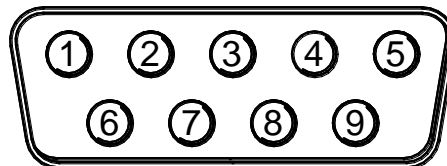

Figure 5. Wire View of RS-232 (DB-9) Male Plug
Two wires need to be connected to a RS-232 serial port. The BLUE wire from the AEM UEGO Gauge shall be connected to Pin #2 (RX) on the serial port for receiving data. Pin # 5 (GND) on the serial port shall be grounded. If a standard 9-pin serial cable is to be cut instead, the (RX) wire is typically RED and the (GND) wire is typically GREEN. However, this should be confirmed with a continuity tester before attempting. (Figure 5)